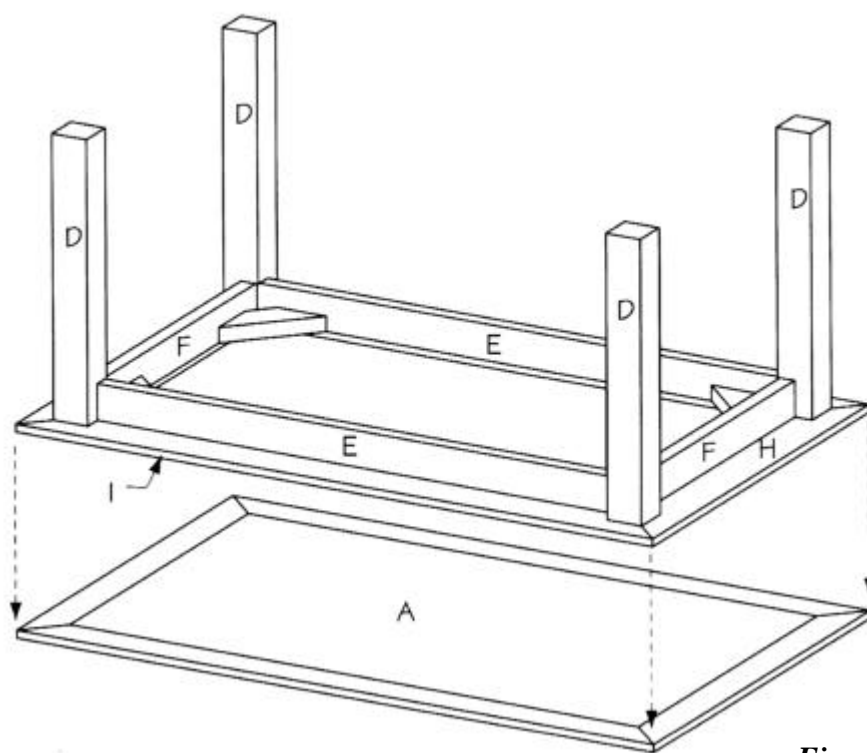

Figure 7
1. Turn the top assembly (pieces A, B, and C) upside down on a flat surface. Make certain that the best side of the laminate is on the bottom. Place the base assembly upside down over the top assembly. The two short bottom frame pieces (H) and the two long bottom frame pieces (I) should be flush with the outer edges of the top assembly, as shown in *Figure 7*. The inside edges of the bottom frame pieces (H and I) will overlap the center top (C) by 2 inches. Apply glue to the meeting faces of all 4 bottom frame pieces (H and I), and screw through pieces H and I into pieces A, B, and C. Use four 1-1/4 inch screws on each of the short bottom frames (H), and five 1-1/4 inch screws on each of the long bottom frames (I), spacing them evenly along the outside edges of the boards. Use the same numbers of screws spaced along the inside edges of the bottom frames (H and I), attaching them securely to the center top (A). Allow time for the glue to dry.
2. The remaining step in the table assembly is to add the trim to the outside surfaces of the side rails (E and F). We added a length of 1 x 4 pine over the 2 x 4 rails just under the tabletop. Although our measurements should be very close to the cutting size for the trim, we suggest that you measure between your table legs before cutting each of the trim pieces, since your assembly may vary slightly. Even 1/32-inch off on the trim pieces will make your project look less than professional. Cut two long trims (J) from 1 x 4 pine, each measuring 53 inches long.
3. Fit the first long trim (J) between the table legs (D) on one long side of the table against the one long side rail (E). The top edge of the long trim (J) should be flush against the bottom of the tabletop. Apply glue to the meeting surfaces and use 1-1/4 inch (3d) finishing nails to attach the long trim (J) in place, spacing the nails about every six inches.